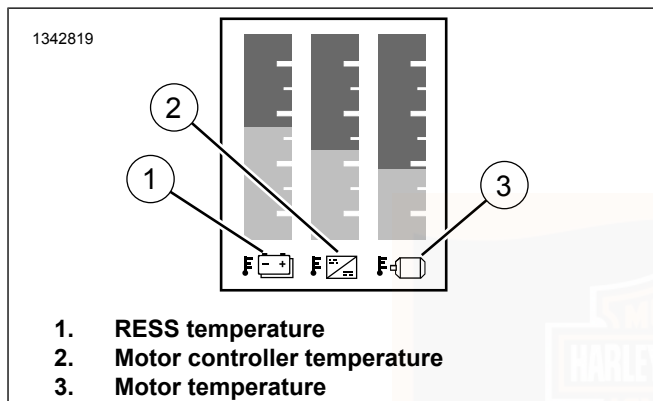

Figure 38. Temperature Widget
See Figure 38. The temperature widget displays RESS temperature (1), motor controller temperature (2) and motor temperature (3).